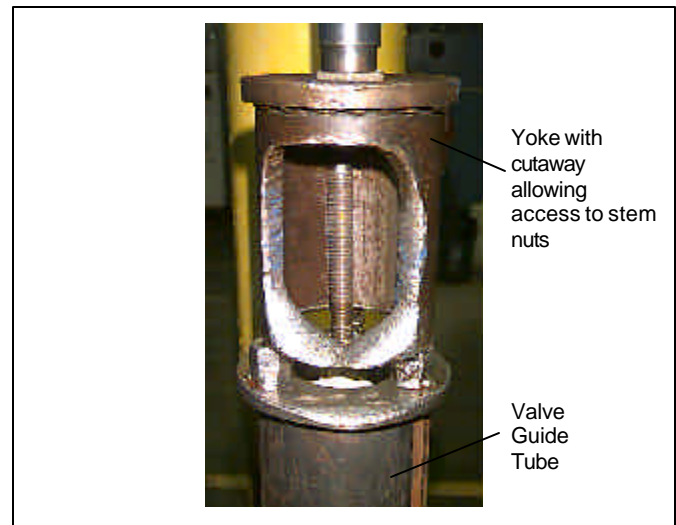

Figure 19 - Yoke for Spring Compressing
16) Using a manual or air operated press, invert the valve to compress the spring and relieve pressure from the adjusting nut. Use a tubular fixture (Fig. 19) that is partially cut away to press down on the spring follower, further compressing the spring.